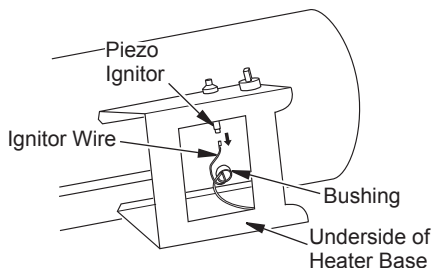

Figure 14 - Removing Ignitor Wire from Piezo Ignitor
2. Remove black ignitor wire from piezo ignitor. Access ignitor wire through underside of heater base (see Figure 14). Push wire up through bushing in heater shell.
2. No spark at ignitor. To test for spark, follow step 9 under Ignitor , page 8. If you see spark at ignitor, have heater serviced by qualified service person. If no spark seen:	2. A) Check ignitor wire. Tighten or reattach loose ignitor wire. See Figure 14, page 8 for ignitor wire location